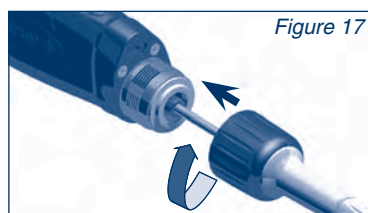

Figure 17
- 8) Reassemble the upper part of the tip-holder and the connecting nut, and then refit to the handle of the pipette by rotating the connecting nut clockwise until it is finger tight (figure 17). Fit the seal and reassemble the lower part of the tip-holder. Refit the tip ejector.